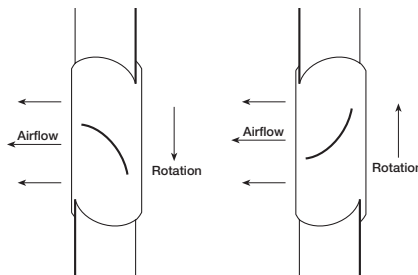
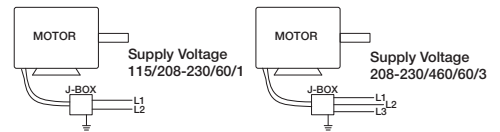

Figure 7 — Rotation Decal
Figure 13 — Typical Wiring Diagram
12. Rotation direction of the propeller should be checked momentarily by turning the unit on. Rotation should be in the same direction as the rotation decal affixed to the unit or as shown in Figure 7. For 3-phase installations, fan rotation can be reversed by interchanging any two of the three electrical leads. For single phase installations follow the wiring diagram located on the motor or see Figure 13.
2. Wire motor for desired voltage per wiring diagram on motor or refer to Figure 13 for connection wiring diagram.
2. Start the fan up and shut it off immediately to check rotation of the propeller with directional arrow in the motor compartment. Refer back to Figure 7.